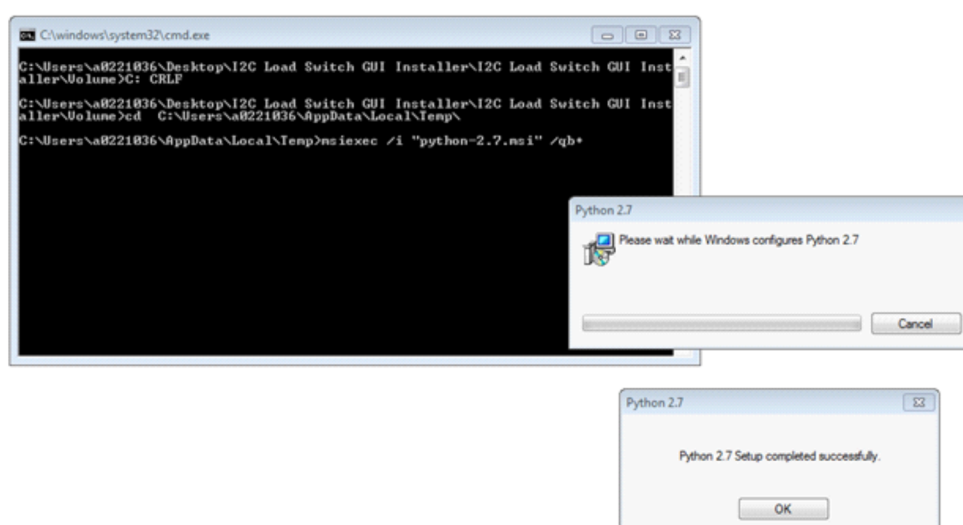

Figure 3. Python Installer
- (C) You will see a Python installer begin, see Figure 3, let the installer complete and then click OK.